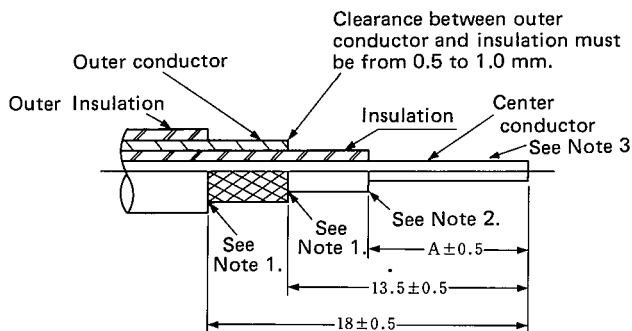

Fig. 2
- (1) Strip the outer insulation to 18 ± 0.5 mm from the cable end shown in Figure 2. Cut the outer conductor of the cable to 13.5 ± 0.5 mm. Cut the insulation by dimension "A" specified in the table below.
- (2) After preparing the cable per #1, wipe the center conductor with an alcohol-dampened cloth to remove any polyethylene residue from the surface of the center conductor.